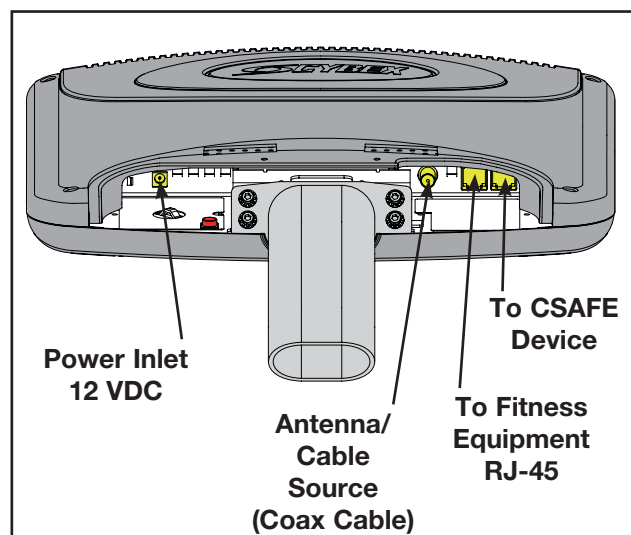

Figure 19
- F. Insert the power cable, coax cable and RJ-45 cable into the monitor as shown in Figure 19. **NOTE:** Use of the CSAFE port is optional and requires a CSAFE cable and device.